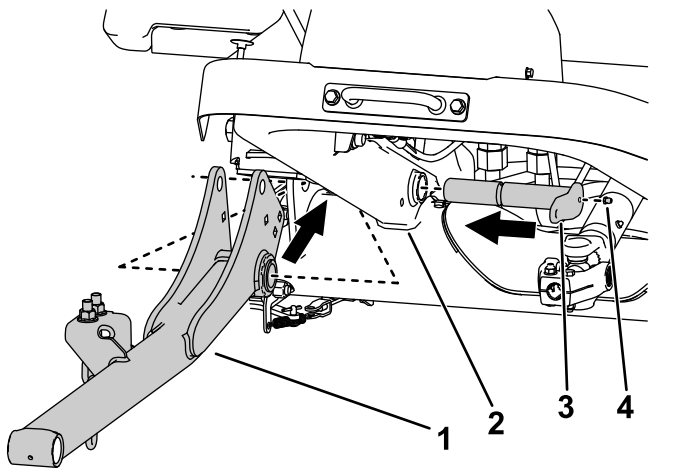

Figure 6
2. Use 2 large pins to install the lift arms to the machine frame (Figure 6).
3. Install the grease fittings to the large pins (Figure 6).